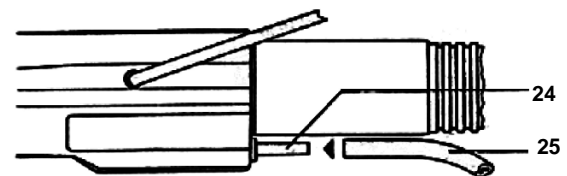

Fig. 13: External screw suction
Connect the pneumatic screwdriver with sleeve (24) fitted with a vacuum hose (25) to the vacuum pump or injector (see Fig. 13:).